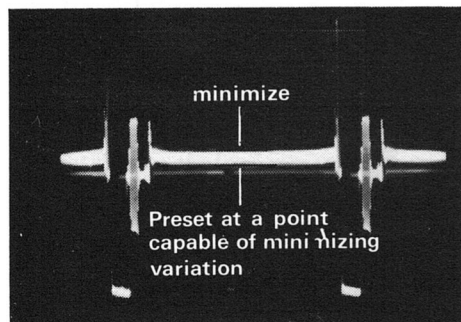

Fig 7.37
- (1) Cap the lens (or close the iris control mechanism)
- (2) Connect the oscilloscope probe between the PAL-type VIDEO output and the GND terminals on the SSG and Encoder PCB (CA 3501A)
- (3) Adjust VR 32 **LOW SET UP** potentiometer on the Video Process PCB (CA 1501A) in a direction such that no green appears on the TV monitor
- (4) Adjust both of the **CARRIER BALANCE** potentiometers (R26 and R27) on the SSG and Encoder PCB (CA 3501A) and located on the underside of the body (Fig 7.38), to minimize the width as shown in Figure 7.37(a)
- (5) Preset VR 32 **LOW SET UP** on CA 1501A immediately before sharply varying the signal (carrier) shown in Figure 7.37(b).